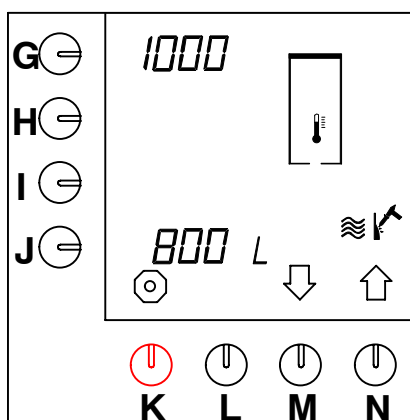

Fig. 51 Descaling signal hot water system
- The descaling signal for the hot water system is for all types set to 1000 litres, see the position beside the selection key (G.), fig. 51 .
- Press selection key (M.)↓ until fig.51 appears on the display.